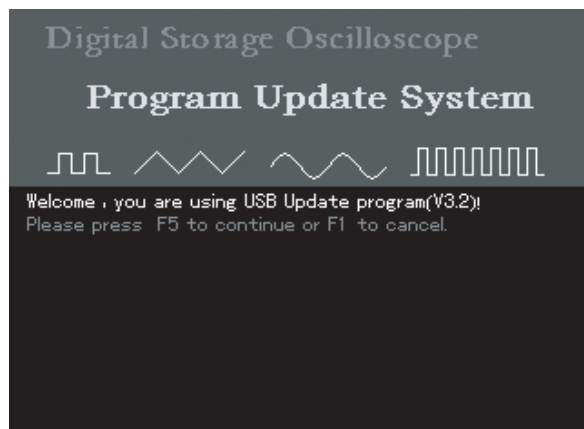

Figure 5-1 USB upgrade confirmation
3. Power off the oscilloscope then insert the USB device. Then power on the oscilloscope again. The prompt "Please press [F5] to continue or [F1] to cancel", as shown Figure 5-1, will appear on the screen.